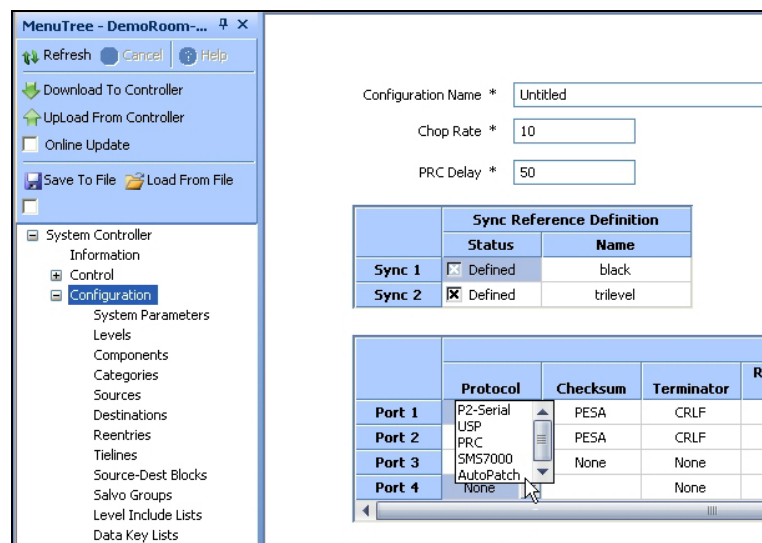

Figure 8. AutoPatch Protocol Menu
4. Select the “Configuration” menu from the Menu Tree listing, as shown by Figure 8.
5. Locate the **Serial Port Configuration** box located towards the center of the main display window, as shown by Figure 8.
7. From the pull-down list, locate the *AutoPatch* entry and click to select it as the active protocol for the port, as shown in Figure 8.